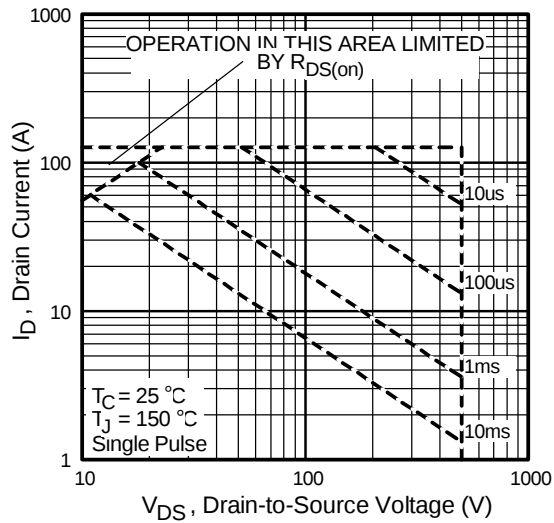

Fig 12. Maximum Safe Operating Area
- ② Starting $T_J = 25^\circ\text{C}$, $L = 1mH$, $R_G = 25\Omega$, $I_{AS} = 31A$ (See Figure 12).
- ③ $I_{SD} = 31A$, $di/dt \leq 422A/\mu s$, $V_{DD} \leq V_{(BR)DSS}$, $T_J \leq 150^\circ\text{C}$.
- ④ Pulse width $\leq 300\mu s$; duty cycle $\leq 2\%$.
- ⑤ $C_{oss \text{ eff.}}$ is a fixed capacitance that gives the same charging time as C_{oss} while V_{DS} is rising from 0 to 80% V_{DSS} .